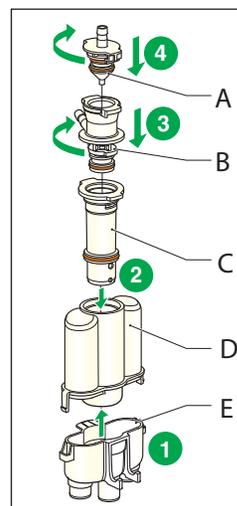

Fig. 5
- 1 Reassemble parts D and E. (Fig. 5)
- 2 Reassemble parts C and D. (Fig. 5)
- 3 Reposition and rotate part B to secure it. (Fig. 5)
- 4 Reposition and rotate part A to secure it. (Fig. 5)